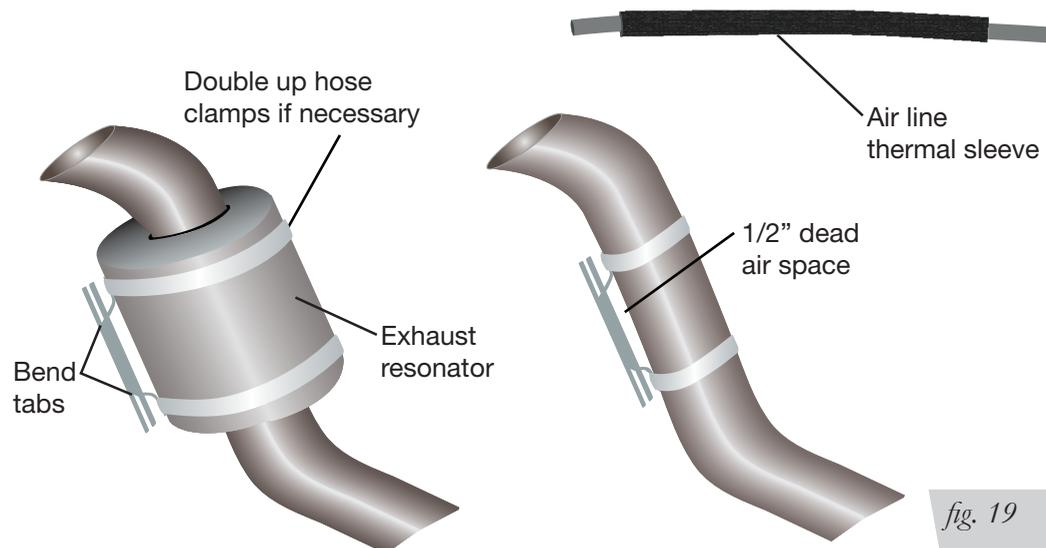

fig. 19
1. Attach the metal heat shield to the exhaust where it is closest to the air spring. Slide the air line thermal sleeve over the air line and place it where the air line is closest to the exhaust (Fig. 19).